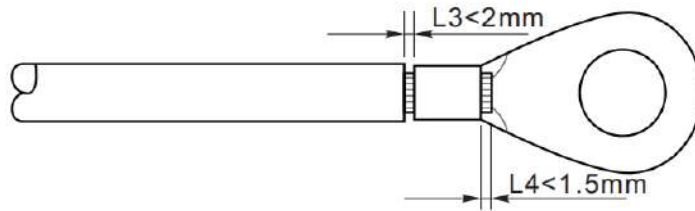

Figure 5-3 Grounding connection instruction (2)
Step 2: Insert the exposed core wires into the OT terminal and crimp them by using a crimping tool, as shown as figure 5.3. Recommend using OT terminal: OT M6, Cable: ≥10mm².